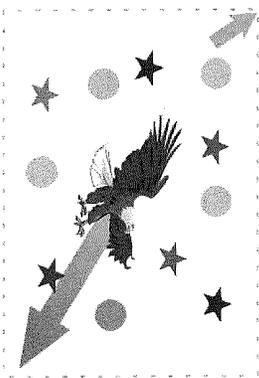

FIGURE 1-5 Marquee-selecting allows you to select or "box" multiple objects.
- Marquee selecting using the PICK TOOL or SHAPE TOOL. You can select all objects in a rectangular area by a **CLICK-DRAG** motion diagonally with the PICK TOOL as shown in Figure 1-5